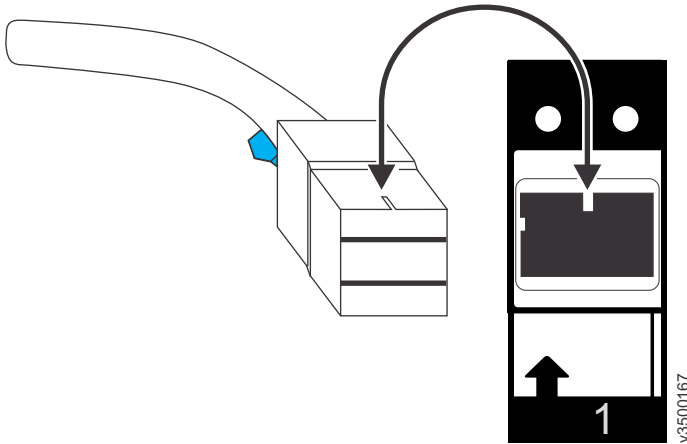

Figure 68. Proper orientation for SAS cable connector
- Figure 68 shows the correct orientation. The blue tab is always below the port for expansion enclosure attachment SAS cables.